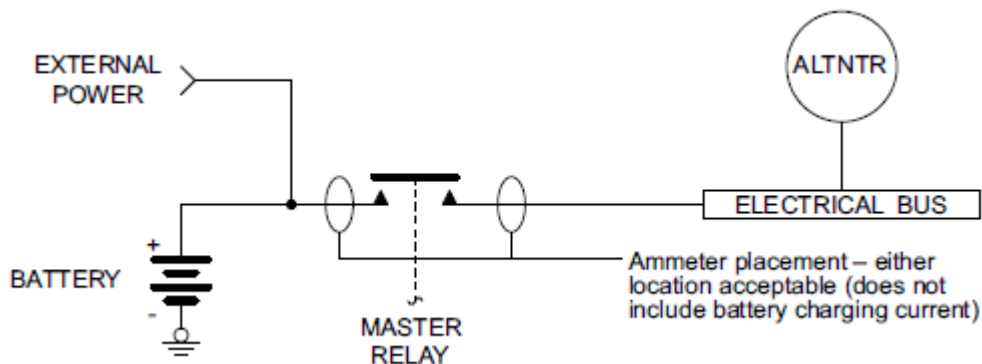

Figure 4-51 Ammeter Placement for Current Measurements
6. Insert/attach the ammeter in the line from the external power source to the master relay circuit as shown in Figure 4-51. This will eliminate errors due to the charging current drawn by the battery.